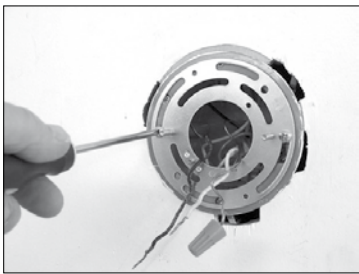

Figure 1
Step 2 Install the universal mounting ring onto the outlet box using the screws provided in the mounting kit. (Fig 1)